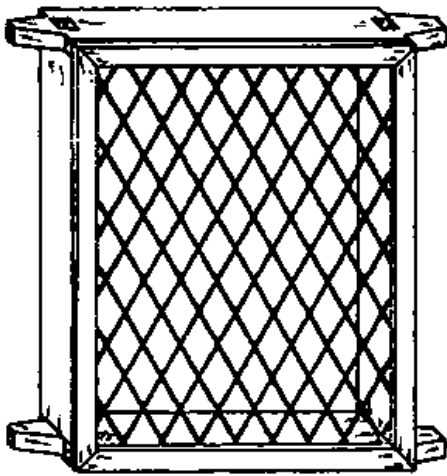

Fig. 1
- One of the most common methods is to fix mesh wire or expanded metal directly onto the frame, in a way that it cannot be torn off without making considerable noise or using a special cutting tool. Use strong beads to attach the wire to the frame and plenty of screws or nails (Fig. 1).